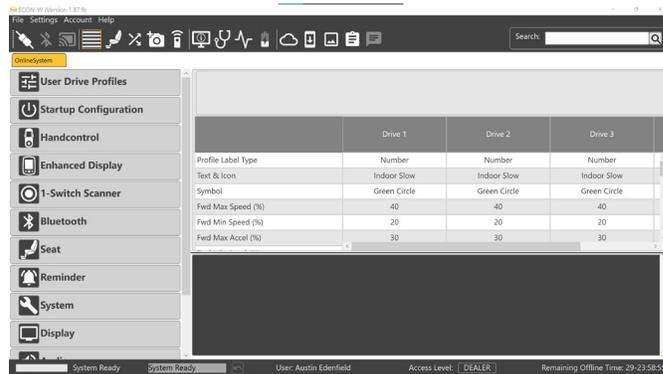

Figure 8. Econ-W connection
9. To program the Q-Logic 3 system to accept input from the Vigo using the Econ-W, connect the Q-Logic 3-equipped chair to the Econ-W program using the USB to XLF CANbus cable. **See figure 8.**